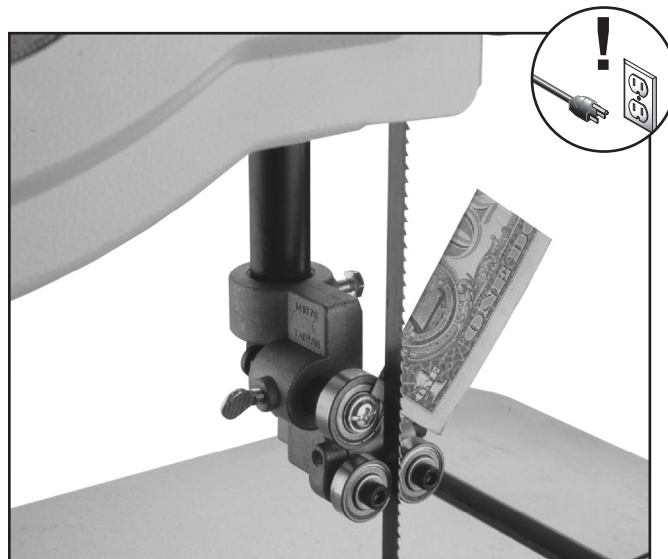

Figure 21. Dollar bill folded twice to make a quick 0.016" gauge.
9. To quickly gauge this setting, fold a dollar bill in half twice (when folded tightly, four thicknesses of a dollar bill is approximately 0.016"). Place the folded dollar bill between the support bearing and the blade as shown in **Figure 21**.